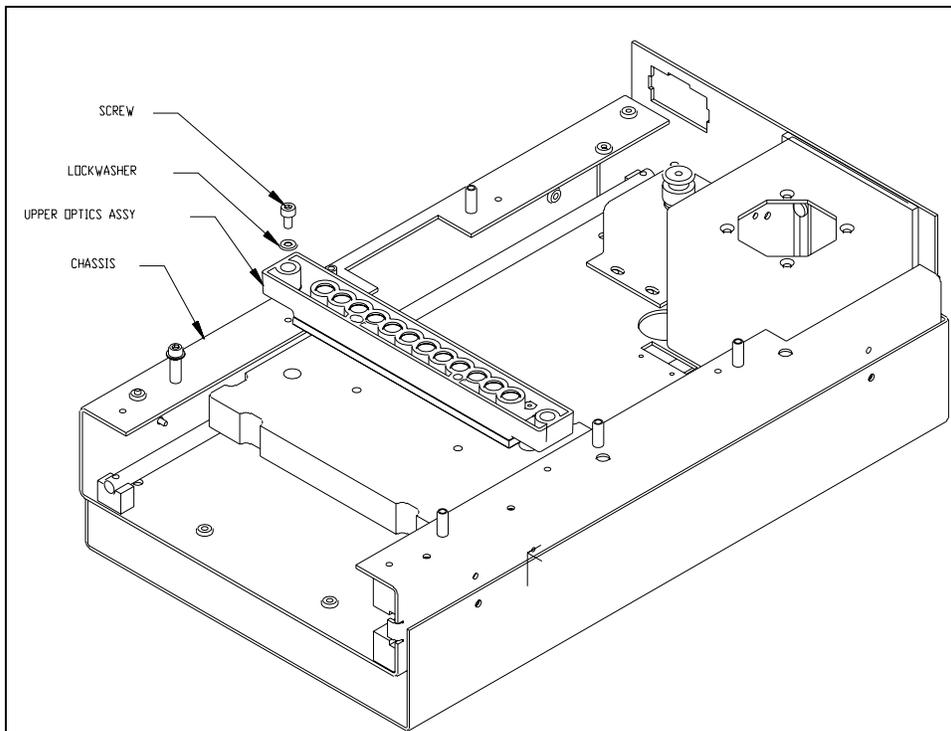

Figure 11-36 Removing Upper and Lower Optical Blocks
- 2 Remove the upper optic block by unscrewing the 2-M3 x 10mm socket head cap screws and 2-M3 lock washers (Figure 11-36).